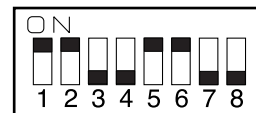

Figure 5-185
- 2) Set the DIP switch (SW1) on the ADF controller PCB as shown in Figure 5-185.